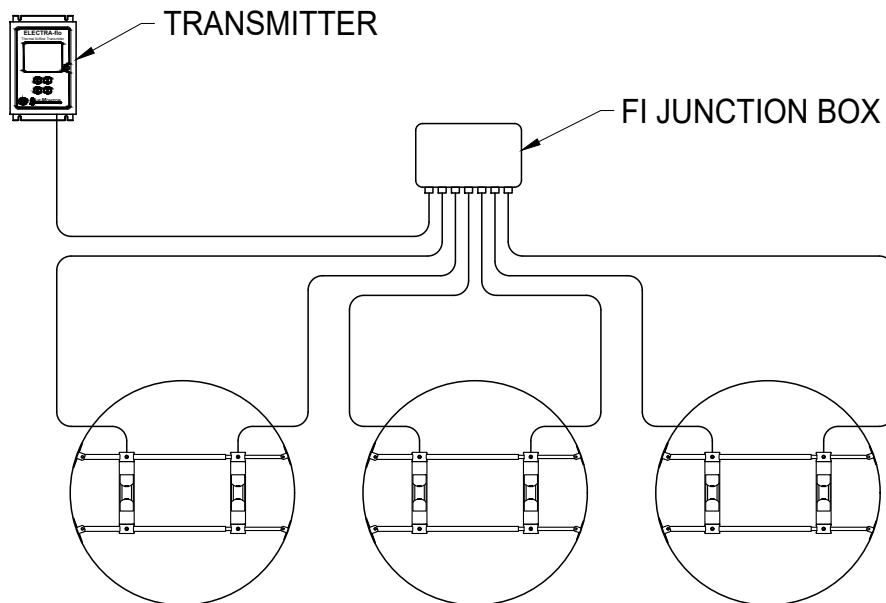

Figure 3
- Each ELECTRA/FI System includes a FI Junction Box. For single or dual inlet fans mount the FI Junction Box at any convenient, accessible location. For fan walls mount the FI Junction Box at a location above the fan Inlets, with the cable access holes oriented downward to prevent any moisture intrusion. See Figure 3 for a three inlet fan wall.